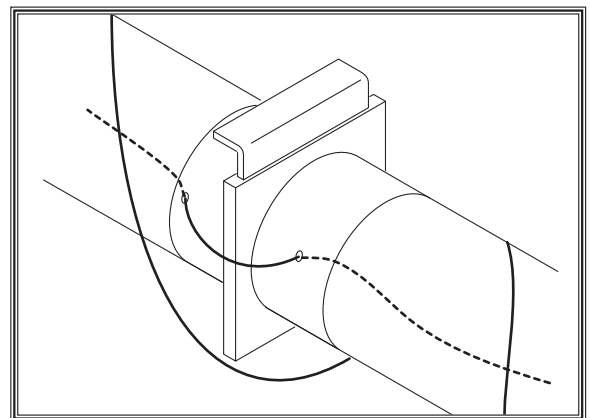

Figure 23. Ground wires bypassing a blast gate.
- If the system has branches, place wires in the same fashion and connect to the wires on the main pipe/hose with wire nuts. If blast gates are to be used, drill exit and entrance holes on either side of the blast gate to allow wire to be fed out of and into the system (see **Figure 23**).